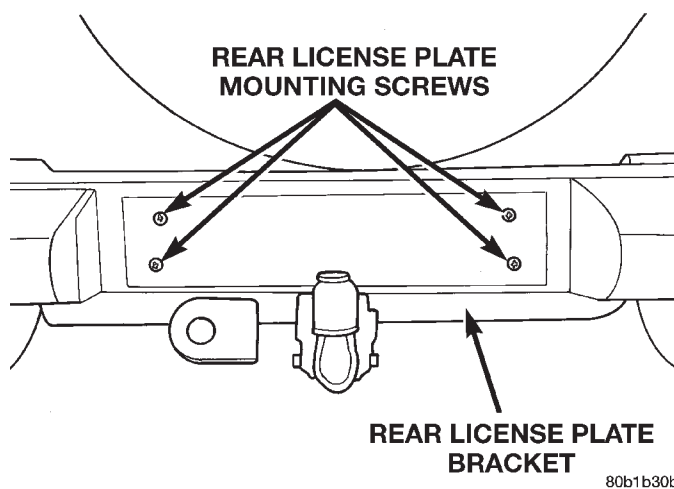

Fig. 4 Rear License Plate Bracket
- (1) Remove the rear license plate bracket attaching screws (Fig. 4).
- (2) Disconnect the license plate lamp electrical connectors.